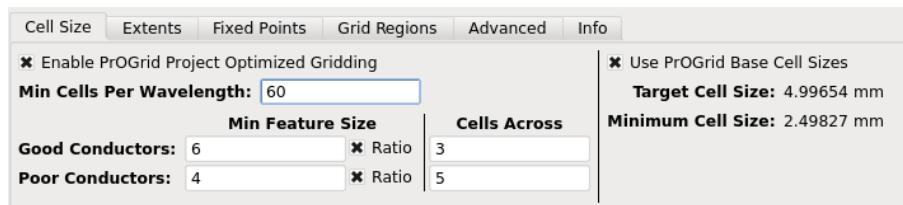

Figure 8.12: Defining cell size on the Grid Editor
- On the CELL SIZE tab (Figure 8.12), set MIN CELLS PER WAVELENGTH to “60”. This will increase the grid resolution, allowing the spatial distribution of SAR to be observed with a higher level of detail.